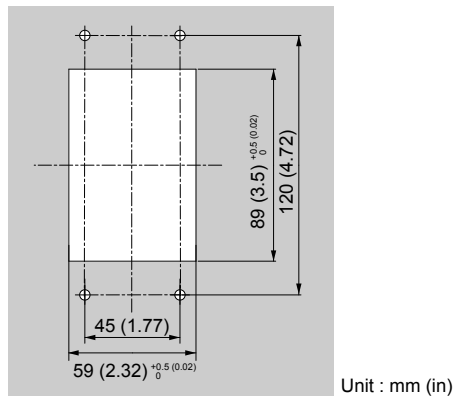

Figure 2.14 Panel Cut-Out Dimensions (Internal/Flush-Mount Installation)
1. Cut an opening in the enclosure panel for the HOA keypad as shown in Figure 2.14.